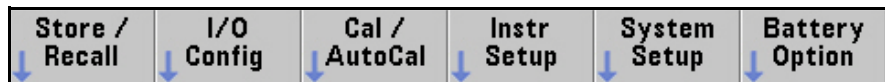

Figure 2-7. Microwave Source Connection to Channel 3
- 4 **Connect the microwave frequency source to Channel 3 on the counter front panel. (Channel 2 for a 53210A.) See Figure 2-7.**